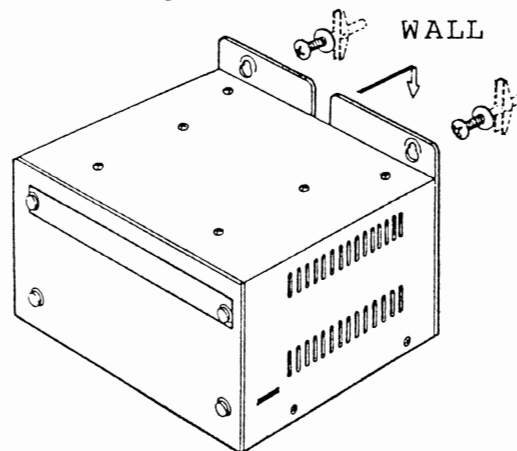

FIGURE 2
- Rotate the back cover 180°, and realign it so that the flanges with the two mounting holes project above the top of the MKSU, as shown in Figure 2.
04.22 Secure the MKSU, as shown in Figures 2 and 3, with fasteners through the upper two holes and the single lower hole in the backplate. The fasteners should be either 1/4-inch molly screws, toggle bolts, or lag screws, depending upon the type of wall surface being used.